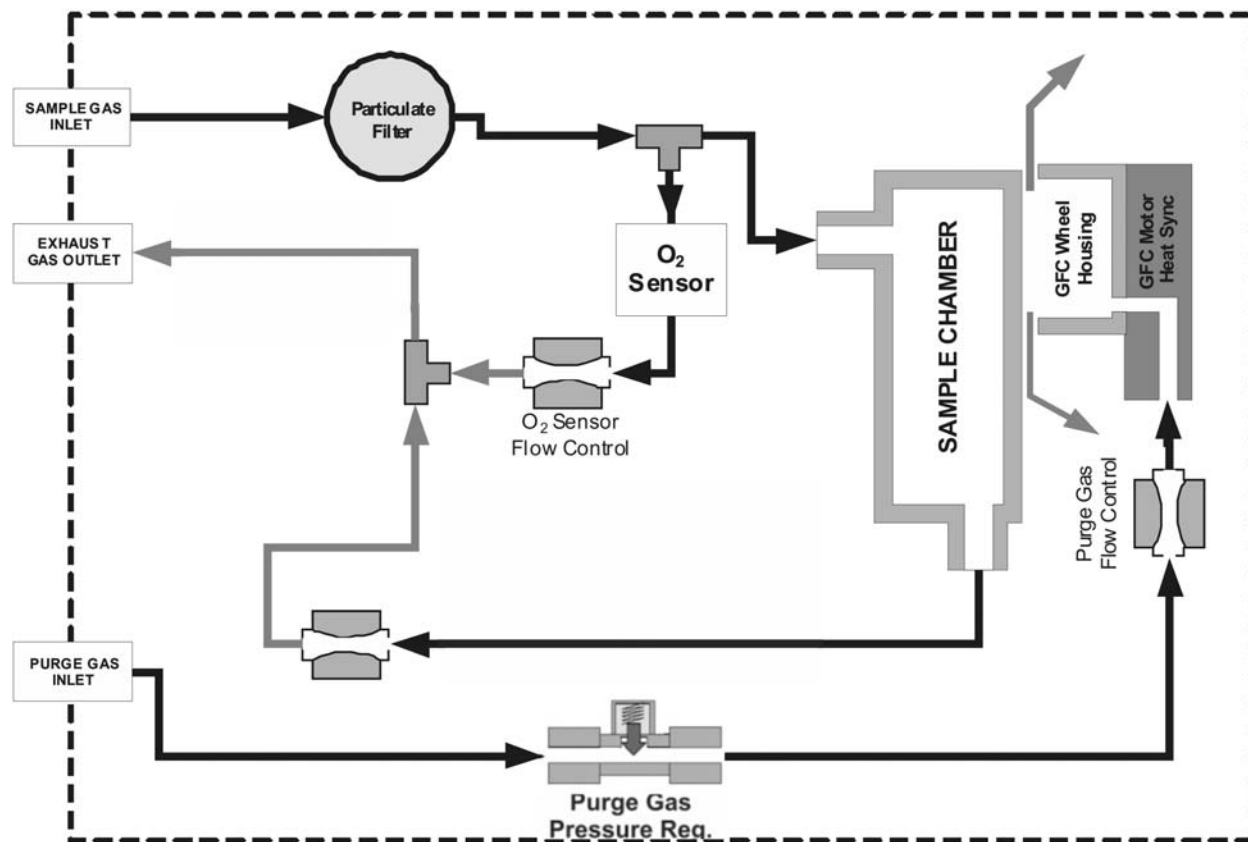

Figure 5-5: GFC 7000T – Internal Pneumatics with O2 Sensor Option 65
- Pneumatically, the O2 sensor is connected to the bypass manifold and draws a flow of about 120 cm3/min in addition to the normal sample flow rate and is separately controlled with its own critical flow orifice. Figure 5-5 shows the internal pneumatics of the GFC 7000T with the O2 Sensor installed.